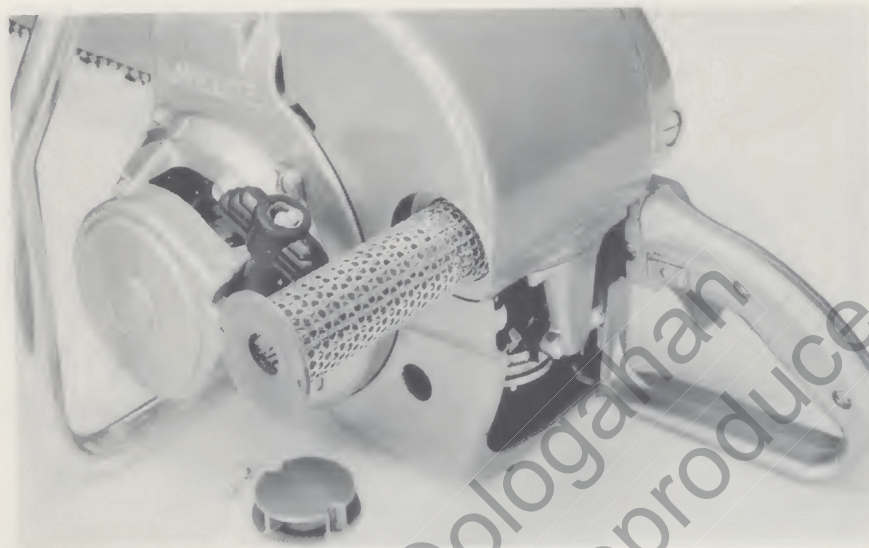

Figure 12—Changing Air Filter
- (1) Occasionally reverse the position of the guide bar top-for-bottom on the saw. This will distribute the wear on both sides of the bar.
- (2) Check bar rails for uneven wear . . . restore uneven rails to even height by grinding the high rail. However, if both rails are worn at any point so the chain hits bottom in the groove, either replace the bar or repair by grinding the groove deeper. After grinding, remove all burrs and rinse bar in solvent to remove abrasives.
**5. MAINTENANCE AND ADJUSTMENT OF ENGINE****a. Air Filter (See figure 12)**